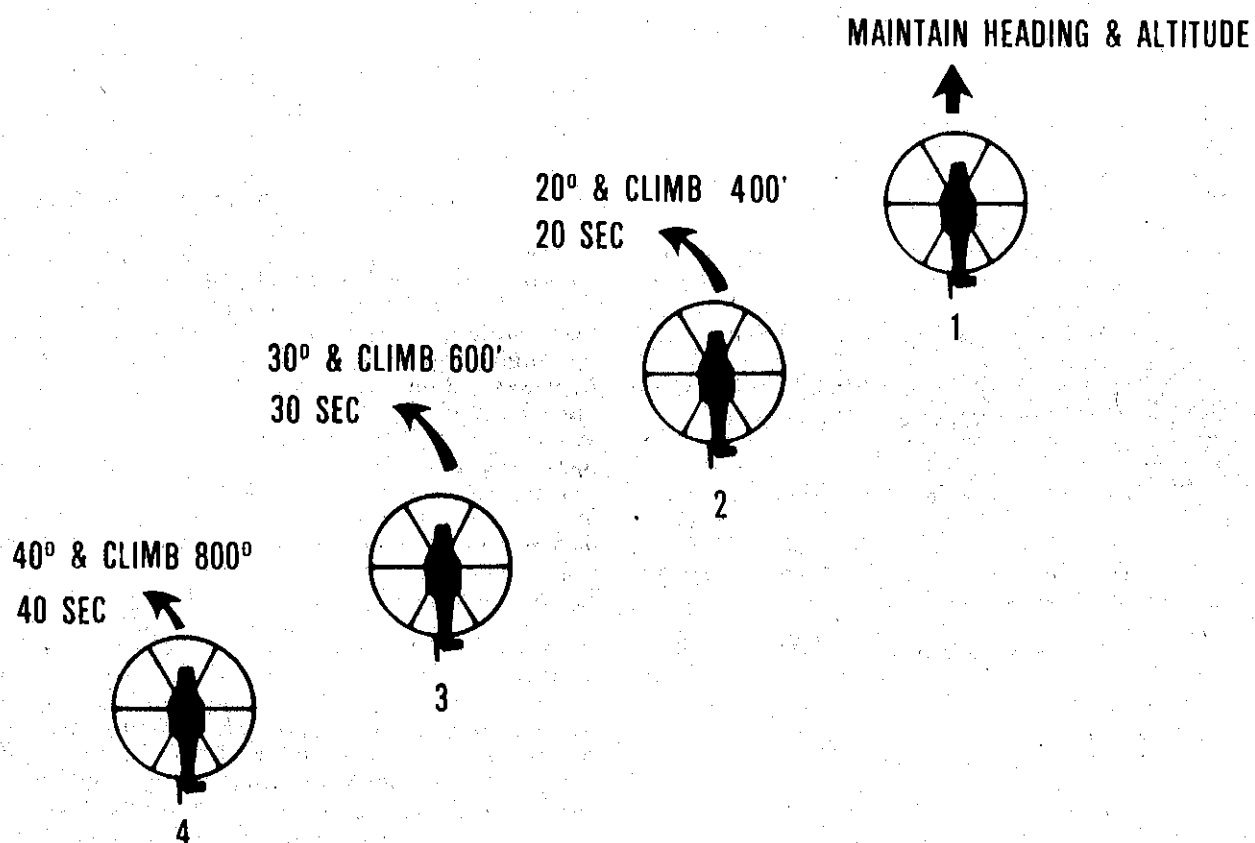

Figure 14-7. Lost Visual Contact—Breakaway for Left Echelon.
**14-15. Lost Visual Contact (See Figure 14-7, 8, 9).** Whenever a wingman loses sight of the preceding aircraft, it is imperative that all members of the formation react quickly and precisely to prevent a mid-air collision. In such a case, the aircraft losing contact will call, "Call Sign, Lost Visual Contact." Lead will announce the base heading, altitude, and airspeed and all wingmen will take action based on that heading and altitude. Wingmen will acknowledge lead's calls.
a. Echelon Left/Right. Number two turns 20 degrees away from the base heading for 20 seconds and climbs 400 ft. above the base altitude. Number three turns 30 degrees for 30 seconds and climbs 600 ft. Number four turns 40 degrees for 40 seconds and climbs 800 ft. If applicable, each aircraft will contact the controlling agency for an IFR clearance. (See figure 14-7.)